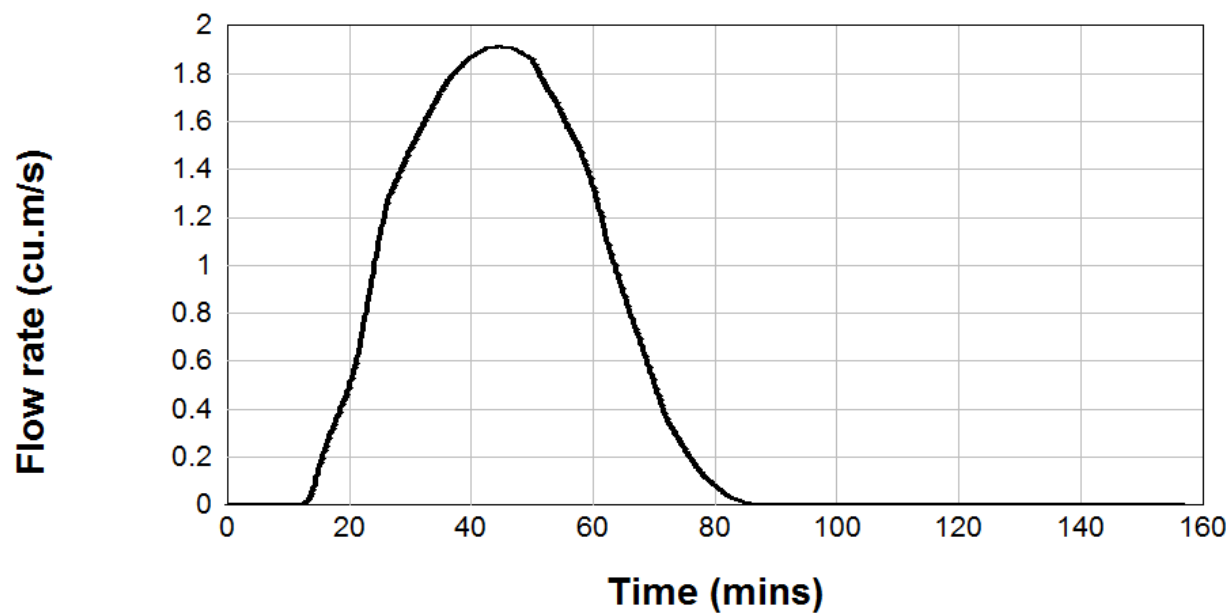

Figure 6 – Eastern Site Boundary Node N4 – 20 Year ARI Storm – 60 minute duration
- ❖ Figure 6 Concept Trench Drainage Basement 1 Plan